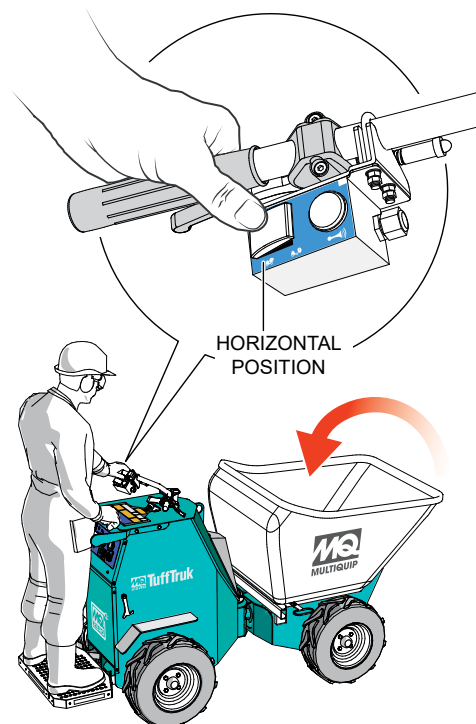

Figure 19. Tub Horizontal Position
2. To return the tub back to the horizontal position, press the dump switch to the left and the tub will return to the horizontal position (Figure 19).